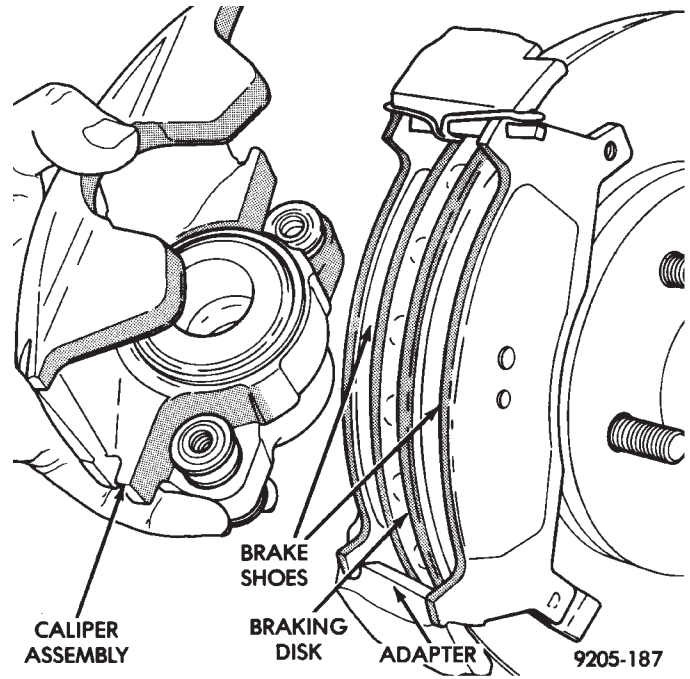

Fig. 3 Removing or Installing Caliper Assembly
(6) Remove caliper assembly from braking disc and adapter by sliding the assembly out and away from the braking disc and adapter (Fig. 3).